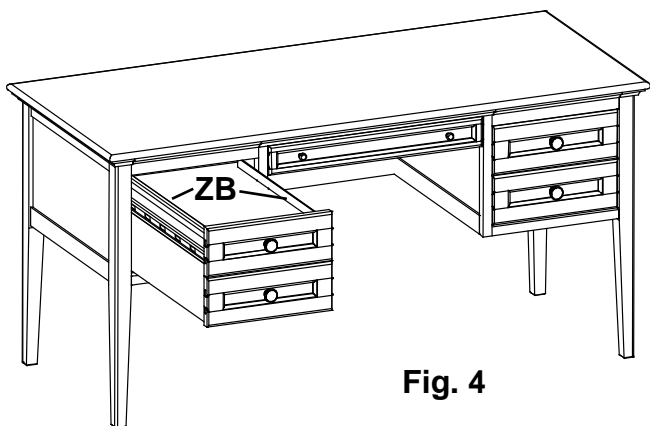
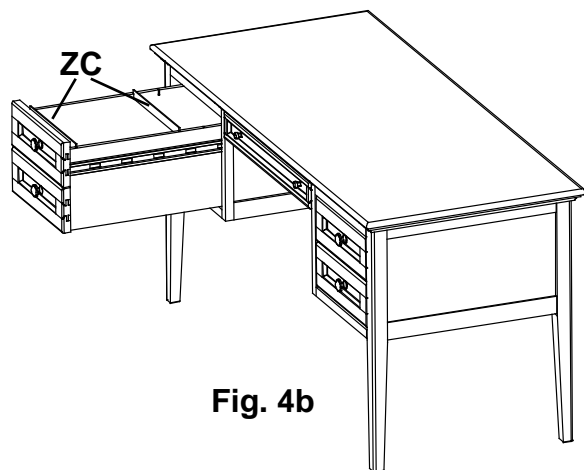

Fig. 4
Fig. 4b
4. Hang your letter-sized hanging folders either parallel or perpendicular to the front of the drawer. Legal-sized folders must hang perpendicularly. If you do not hang your files perpendicularly, store the Aluminum File Rails (ZC) to use in the future. To hang your files perpendicularly, remove the Plastic File Rails (ZB). See Figures 4 and 4a. There are slots on the sides of the drawers. Insert an Aluminum File Rail (ZC) into the slots nearest to the Drawer Face (F). Insert another Aluminum File Rail (ZC) into the second set of notches for letter-sized folders or the third set of notches to hang legal-sized folders. See Figures 4b and 4c.